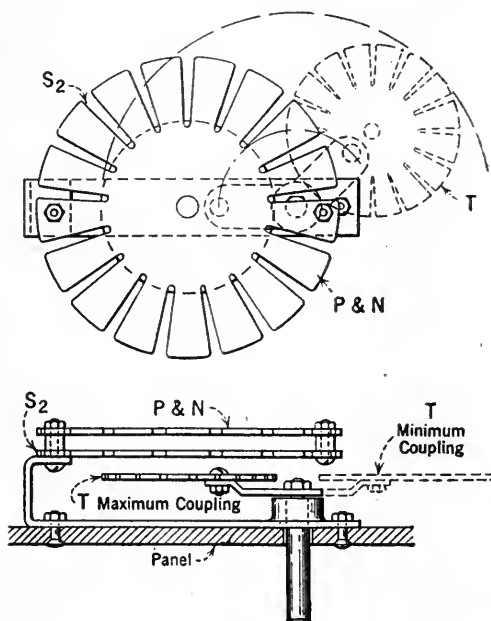

FIG. 8
**A**FTER trying every conceivable way of working the tickler for my Roberts set, I have devised the scheme shown in Fig. 8. I have found it more satisfactory mechanically and electrically than the factory-made apparatus.